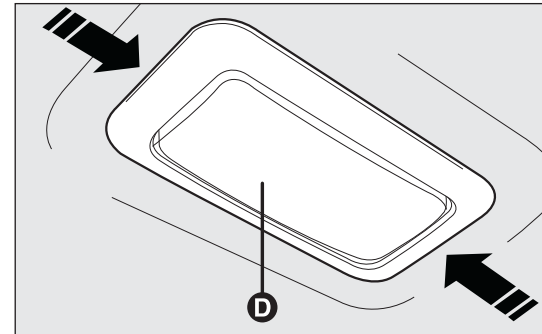
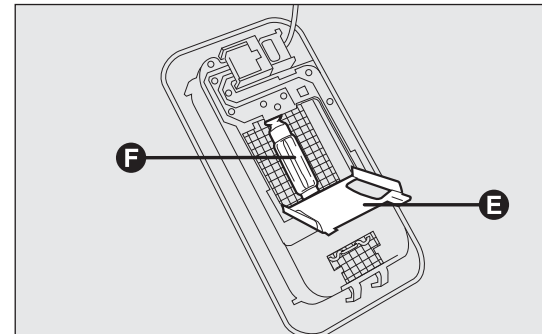

fig. 182
fig. 183
- manipulate the points shown by the arrows and remove light D-fig. 182;
- open the protective flap E-fig. 183;
- replace bulb F-fig. 183 by releasing it from the side contacts and making sure that the new bulb is correctly clamped between these contacts;
- re-close the protective flap E-fig. 183 and fit light D-fig. 182 into its housing, making sure it locks into place properly.